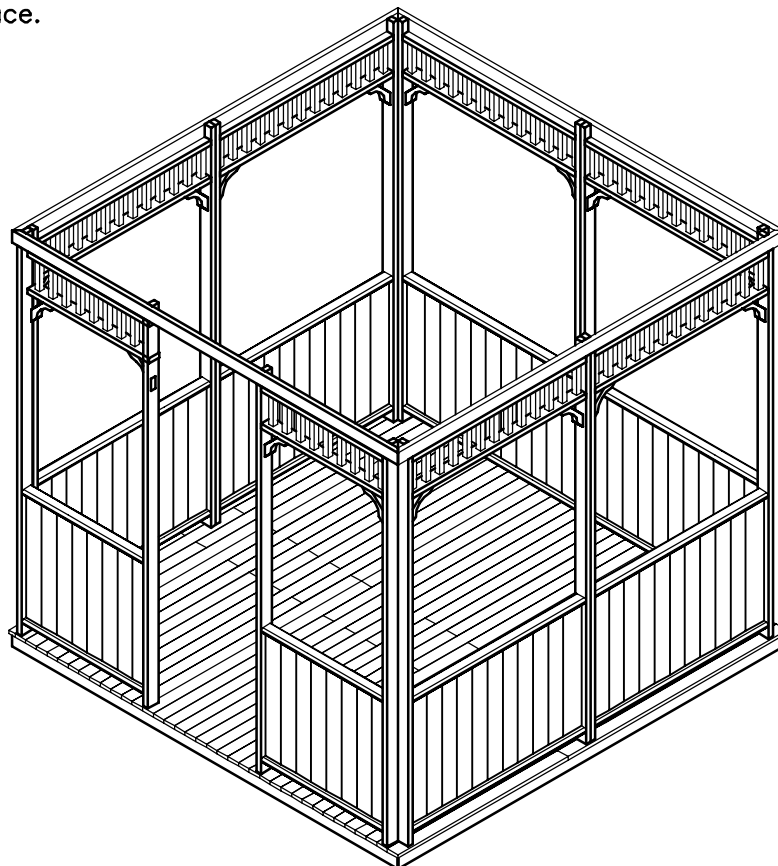

FIGURE S18
- Figure S18 illustrates the completed wall sections with upper baluster and corner brackets in place.